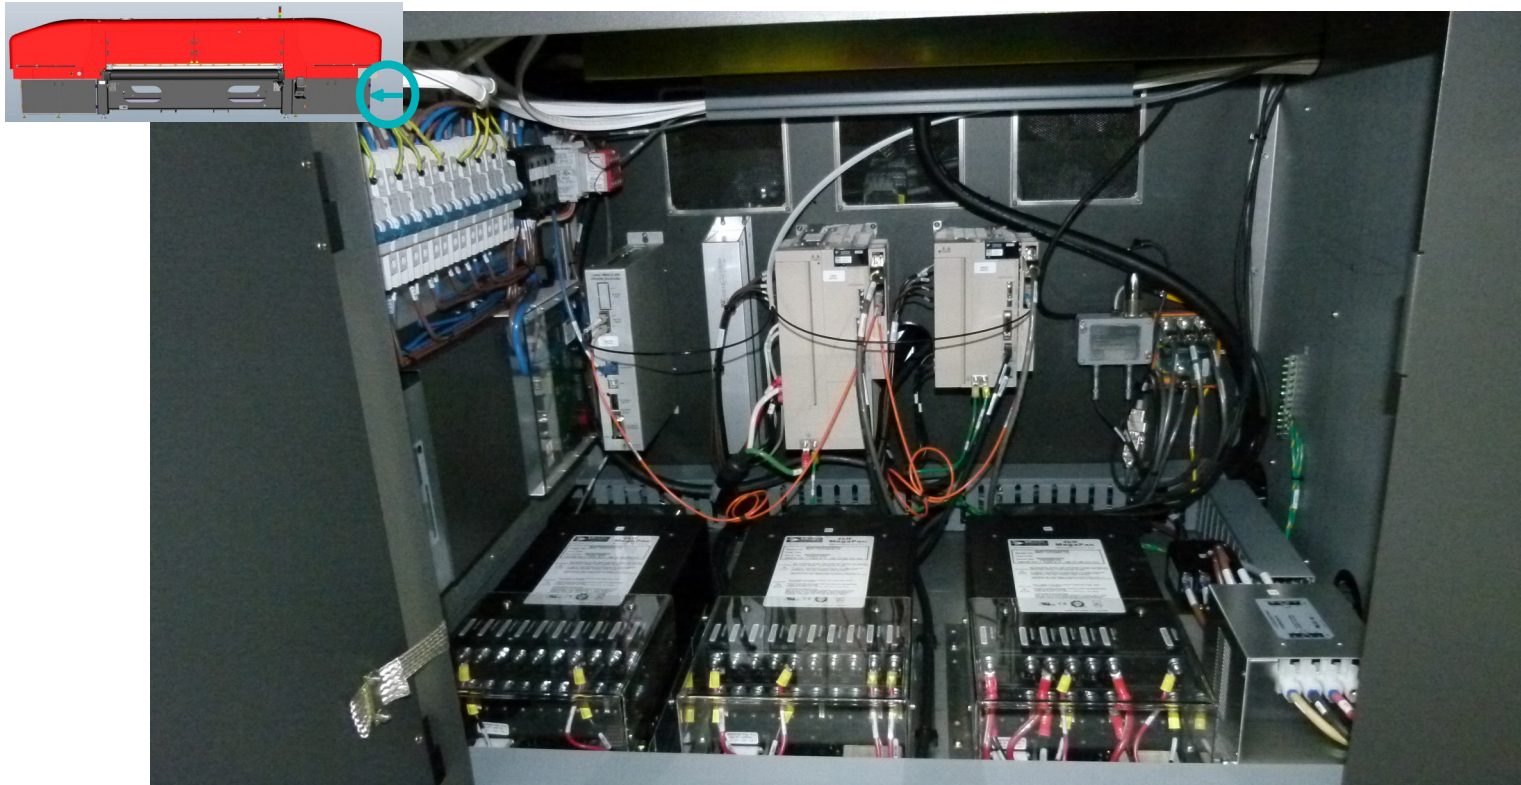

Figure 2-49: Power Supply & Servo Compartment
- B. In power distribution, motion, ink and waste cabinets, remove used/soiled gloves, wipes and other large debris. See Figure 2-49 through Figure 2-54.